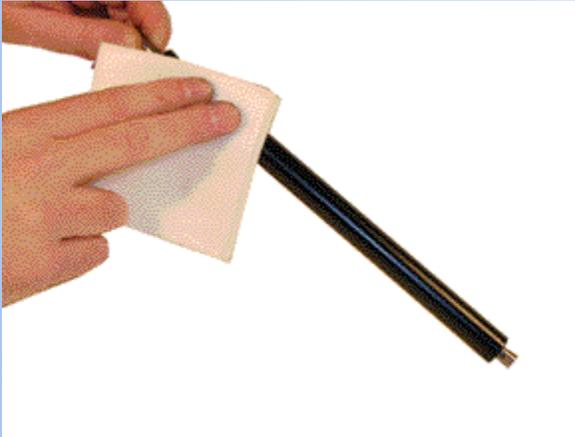

FIGURE 36
28. Clean the developer roller with a clean lint free dry cloth. We do not recommend any chemicals be used at this time. See Figure 36